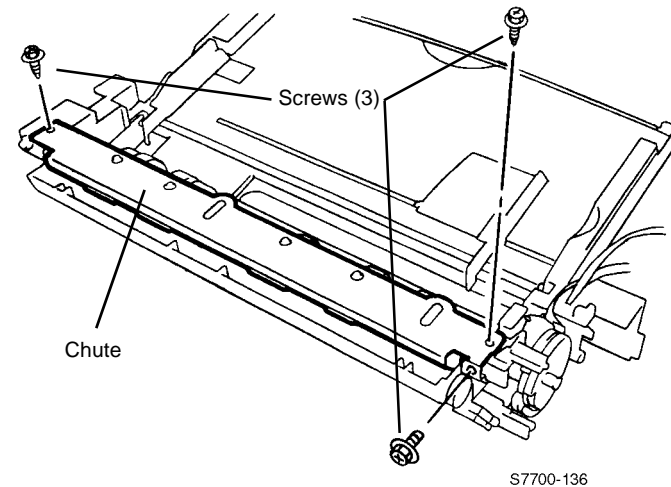

Figure 1 Removing Chute
2. Remove the Chute (Figure 1).
- a. Remove Screws (3).